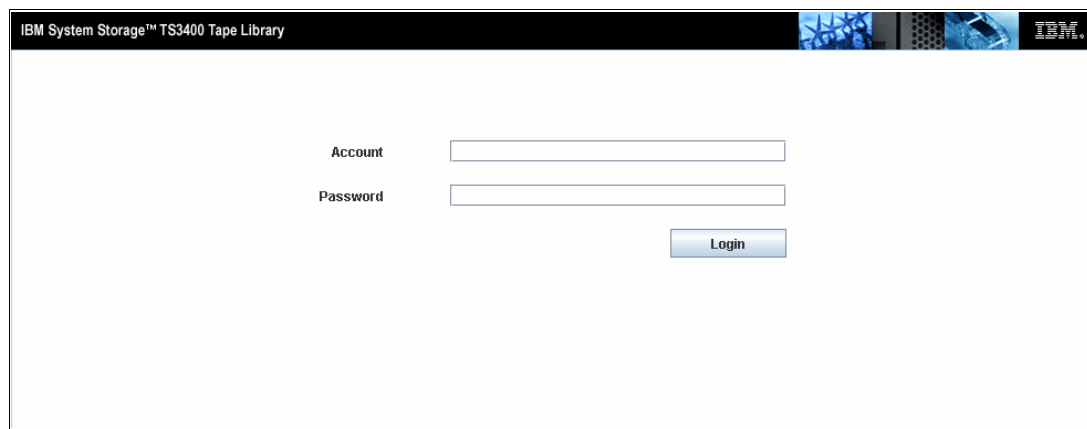

Figure 11-19 IBM System Storage TS3400 Tape Library login window
- Select **Always trust content from this publisher** to avoid this message in subsequent browser sessions. After launching the Web User Interface by clicking **Run**, the login window is displayed. Refer to Figure 11-19.